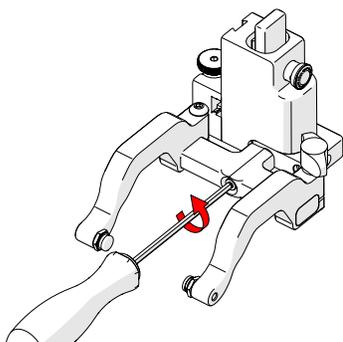

Fig. 114 - Remove yoke
1. Using the supplied 3 mm driver, unscrew the yoke (Fig. 114).
1. Remove the yoke using the supplied 3 mm hex driver (Fig. 114).